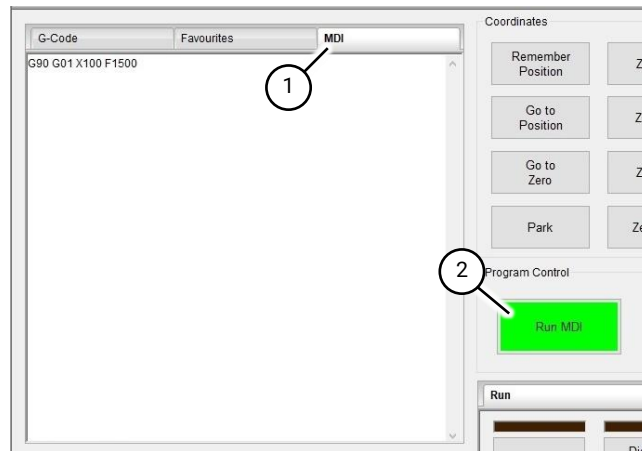

Fig 76 MDI tab
4. The MDI (Manual Data Input) tab is used for the input of G-Code commands from keyboard (Fig 76 (1)). If the MDI tab is active on the upper left-hand pane the green Run button will be showing as Run MDI.
4.1 To execute entered code, press the Run MDI button (Fig 76 (2)) on the program control pane.